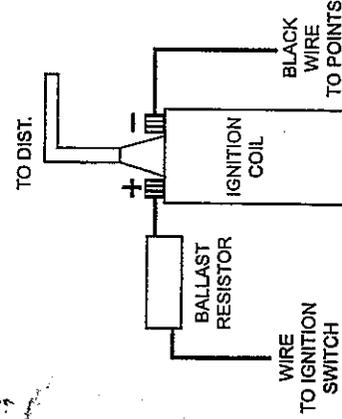

FIGURE 2
5. The red wire from the Ignitor should be connected to the positive (+) side of the coil, or a 12-volt switching power source (See Figure 2 & 3). The black wire should be connected to the negative (-) side of the coil.
12. For installations that do not use a primary ballast resistor, connect the red ignitor wire to the positive (+) side of the ignition coil (See Figure 2).